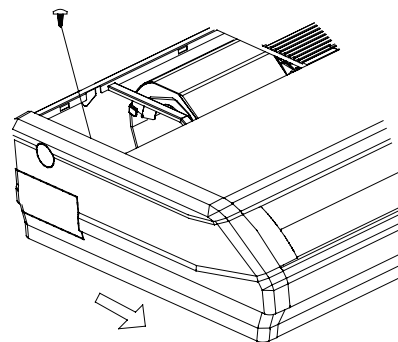

Fig.3
(3) Remove the side panel fixing screw and pull to the front direction (arrow direction) to remove. (Refer to Fig.3)